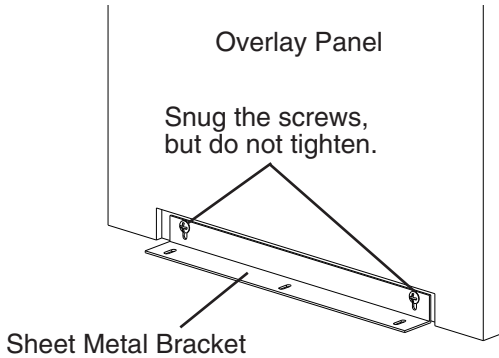

Fig. 13
- 1) Fasten the sheet metal bracket to the overlay panel using the two M4×8 truss head screws provided. **Snug the screws, but do not tighten.** See Fig. 13.